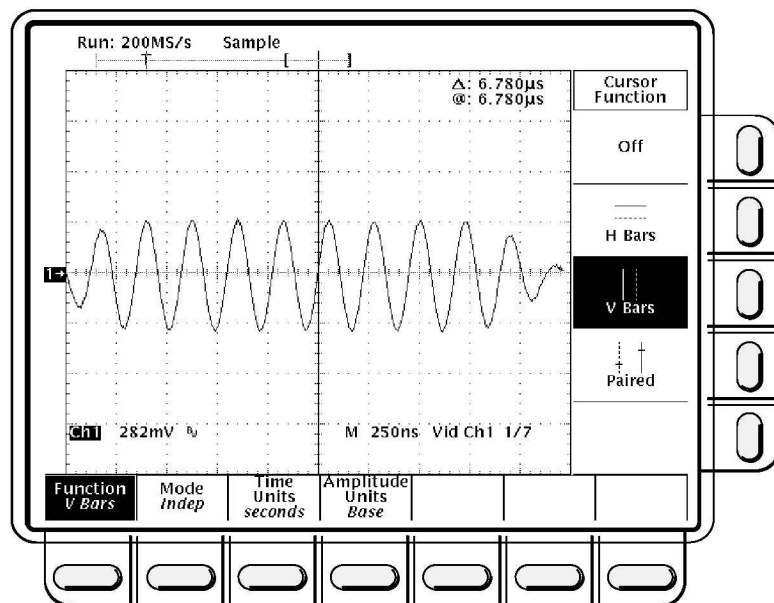

Figure 4-37: Line Count Accuracy Correct Result Waveform
- Verify that the cursor is positioned on a positive slope of the burst signal (see Figure 4-37).